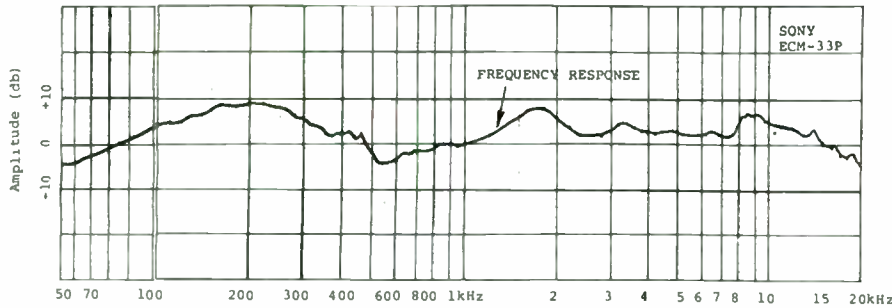
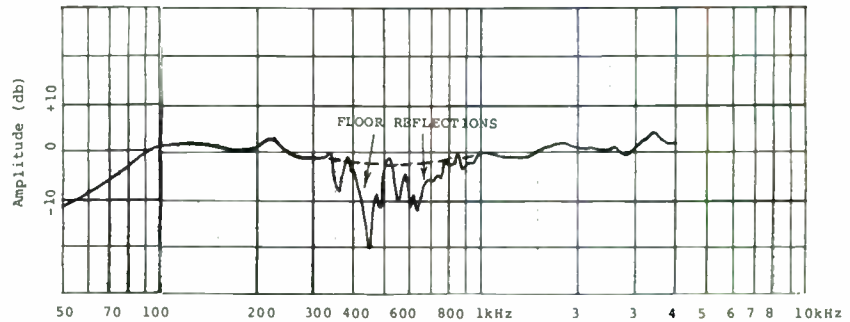

FIGURE 6: Measured frequency response of the complete system with new crossover network; same procedure as Fig. 1.
FIGURE 8: Axial frequency response curve with system on floor facing upward. Microphone was 12" above speaker.
The result of a fresh frequency response measurement with the new crossover in place is shown in Fig. 6. Notice the much improved response from 2.5kHz upward. All the previous roughness from the modal operation of the woofer cone is now gone, and the response from about 2kHz to 15kHz is now within ±3dB, an excellent figure for such an inexpensive system.
**RESULTS.** But what about the other large peaks and dips, starting down from approximately 2kHz, so clearly visible in Fig. 6? I measured the speakers with the new crossover, placed face up on a hard floor of a live room, 10 by 15 by 25 feet, from a distance of 12 feet. The results are plotted in Fig. 8. Note the big difference compared to Fig. 6, especially below 2kHz. Except for the expected reflections from the floor causing a large series of cancellations around 600Hz, the response is now much smoother. This means most of the remaining response
irregularities in Fig. 6 are due to diffraction effects from the front baffle edges of the little speaker.
Therefore, placing the speakers on a bookshelf, with their backs to a wall, will produce a favorable change in audible response; even better when they are positioned with the fronts flush with some books or other large objects. This should eliminate almost all the major reflection and diffraction effects and produce the smooth response shown in Figure 8.
In contrast, if the loudspeakers are placed on stands, well away from any walls or other reflecting surfaces, the system has a very disturbing nasal and box-like sound. Flush wall mounting should result in a very flat frequency response. When the responses of Figs. 6 and 8 are combined (Fig. 9), the result is an excellent  $\pm 4$ dB from about 85Hz to 17kHz; impressive performance for so inexpensive a speaker system.